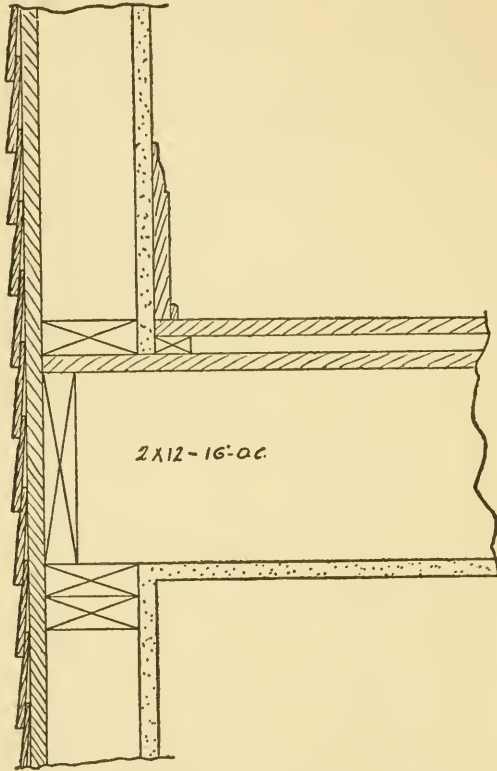

Fig. 46. Common Floor Construction at Second-Floor Line.
**Floor Construction.** The floor construction does not vary much (see Fig. 46). In this figure